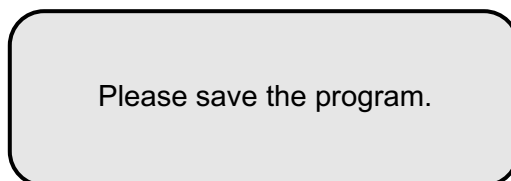

Fig. 14: Finish Programming
5. You can select the quality control well based on your demands. If you do not need quality control, continuously press **Enter** key till the symbol in front of End becomes ●, and then enter the interface of saving program (Fig. 14).
2. Input the lower limit normal value and press Enter key to confirm. Then input the upper limit normal value and press Enter key to confirm. After that, the instrument enters the interface of saving program (Fig. 14).